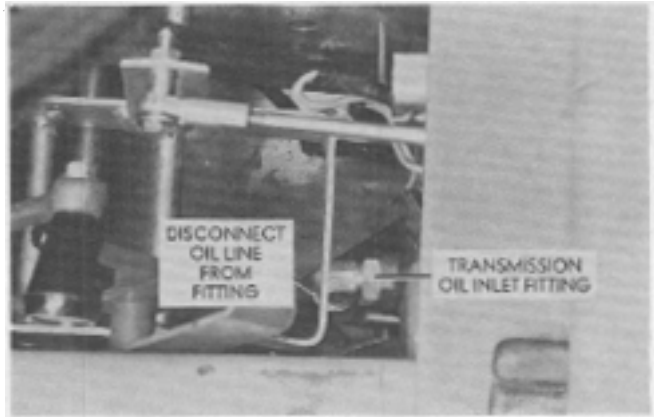
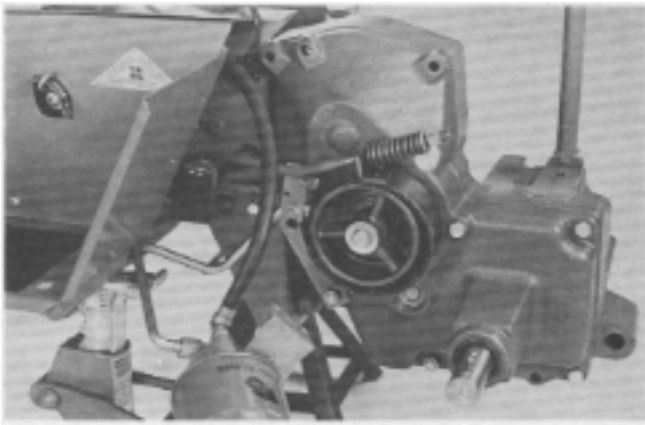

FIG. 25. Disconnect Metal Line
FIG. 33. Remove Wheel Hubs, Disconnect Metal Line
12. Disconnect metal line from front of transmission, using an $\frac{1}{16}$ " Crow Foot wrench (Fig. 25). Move metal line and oil filter out of way as shown in Fig. 33.